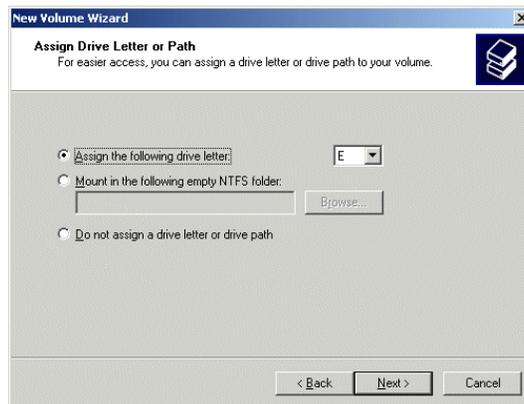

Figure 2-26
Observe in Figure 2-26 that **Disk 1** is shown as being approximately 800 GB in size, where 800 GB equates to 2/3 of the 3 x 400 GB capacity of the data disks (the remaining 400 GB is used to provide the RAID 5 redundancy).
- 26) Click the **Next** button to be presented with the **Assign Drive Letter or Path** screen. Ensure that the **Assign the Following Drive Letter** item is selected and accept the default letter presented by the system (or enter a different letter if you require) as shown in Figure 2-26.